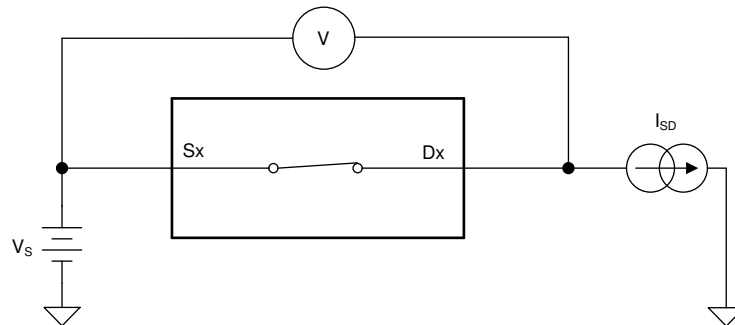

Figure 7-1. On-Resistance Measurement Setup
The on-resistance of a device is the ohmic resistance between the source (Sx) and drain (Dx) pins of the device. The on-resistance varies with input voltage and supply voltage. The symbol  $R_{ON}$  is used to denote on-resistance. The measurement setup used to measure  $R_{ON}$  is shown in Figure 7-1. Voltage (V) and current ( $I_{SD}$ ) are measured using this setup, and  $R_{ON}$  is computed with  $R_{ON} = V / I_{SD}$ :